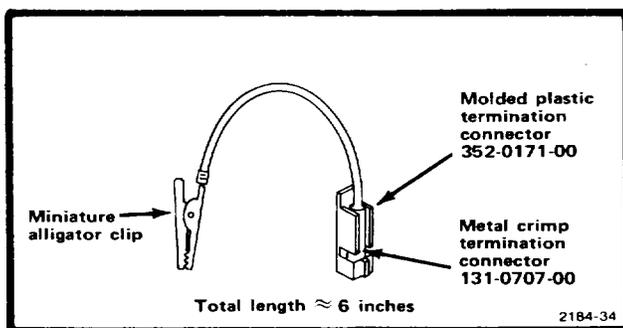

Figure 4-19. Suggested construction for a shorting strap calibration fixture.
-----1. Install a shorting strap (Fig. 4-19) from TP1790, TP1795, and TP1820 (Fig. 4-15), to chassis ground.